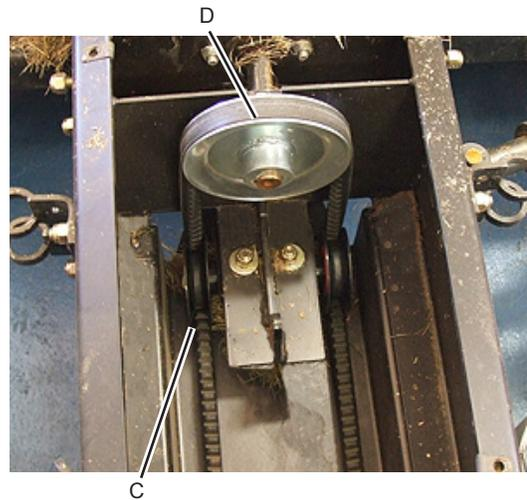

Figure 7
3. Install broom drive belt (Figure 7).